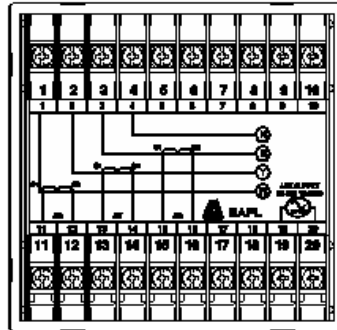

Fig 2
- 1) Connect 3 phase 4 wire voltage and current circuit as per the diagram given on the back panel.(fig.2 )